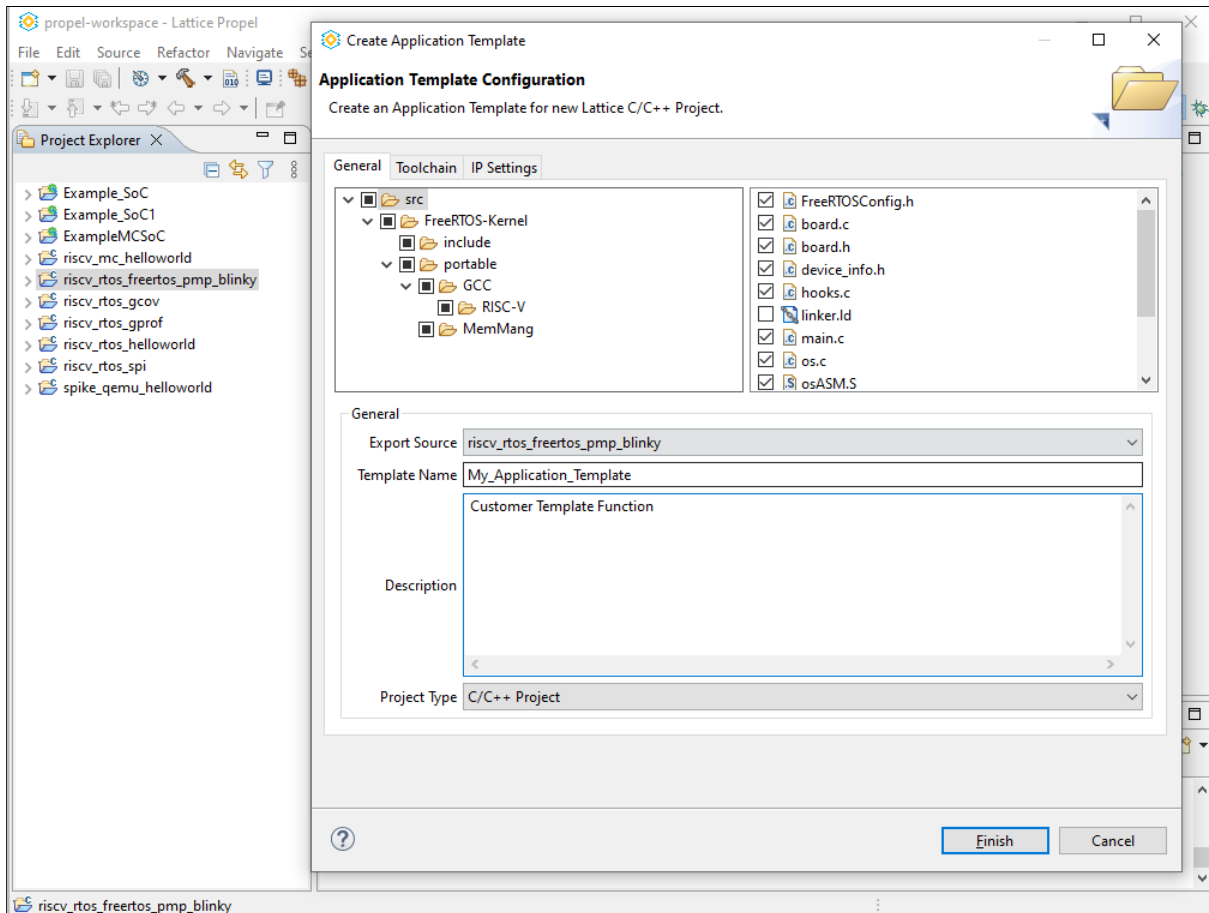

Figure 3.7. Create Application Template – General
1. From Lattice Propel SDK, select a C/C++ project and choose **Project > Create Lattice Application Template**. The Create Application Template wizard opens (Figure 3.7).
- Under the General tab (Figure 3.7), select project code files. All files except linker.Id are checked. It is recommended to keep these selections to avoid potential errors in building.